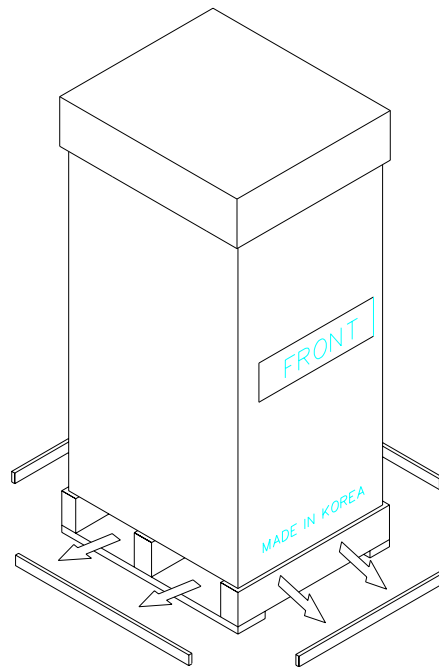

Fig. 6.2
- 3) Use an appropriate tool to remove the nails from the palette. (refer to Fig. 6.2)